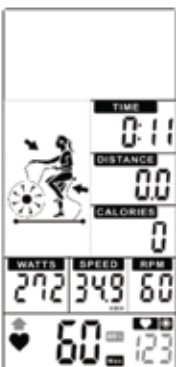

Figure 47
- 4 When Heart Rate goes below to 65%,  &  & value will flash. And buzzer sounds in every 10s until user HR achieve above 65% (Figure 47).